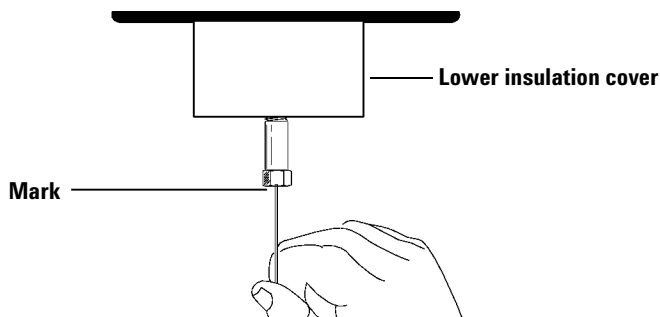

Figure 61 Adjusting the column
- 10 Adjust the column position so that the correction fluid mark on the column is even with the bottom of the nut. See Figure 61.